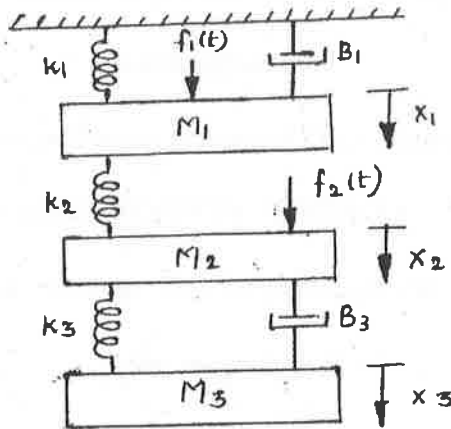

Fig. 1
11. (a) (i) Write the differential equations governing the mechanical translational system as shown in Fig.1. Draw the Force – Voltage and Force – Current electrical analogous circuits and verify by mesh and node equations. (12)